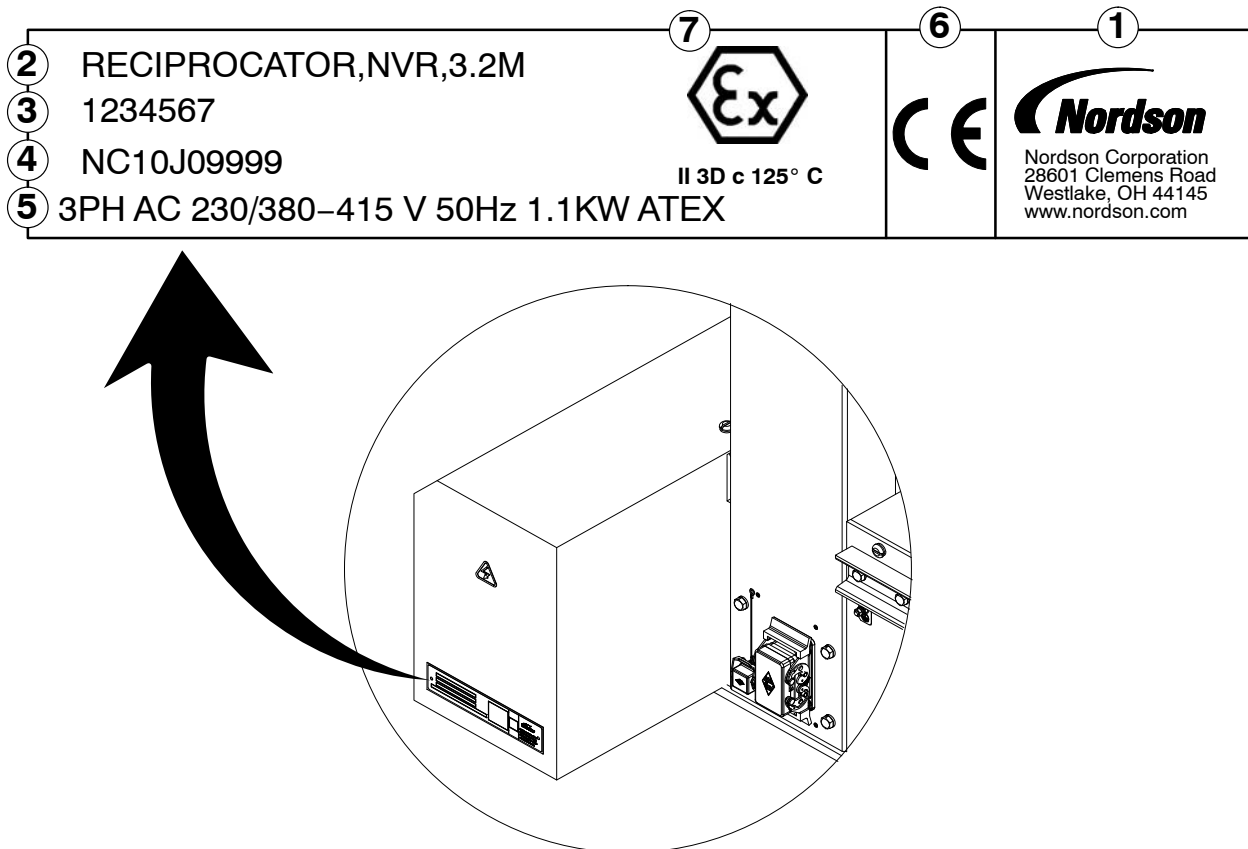

Figure 2 Typical Identification Label
See Figure 2. The Identification label is located on the back of the motor cover and lists the following information:
**NOTE:** The information on the Identification label shown in Figure 2 is only an example and is not specific to any reciprocator.